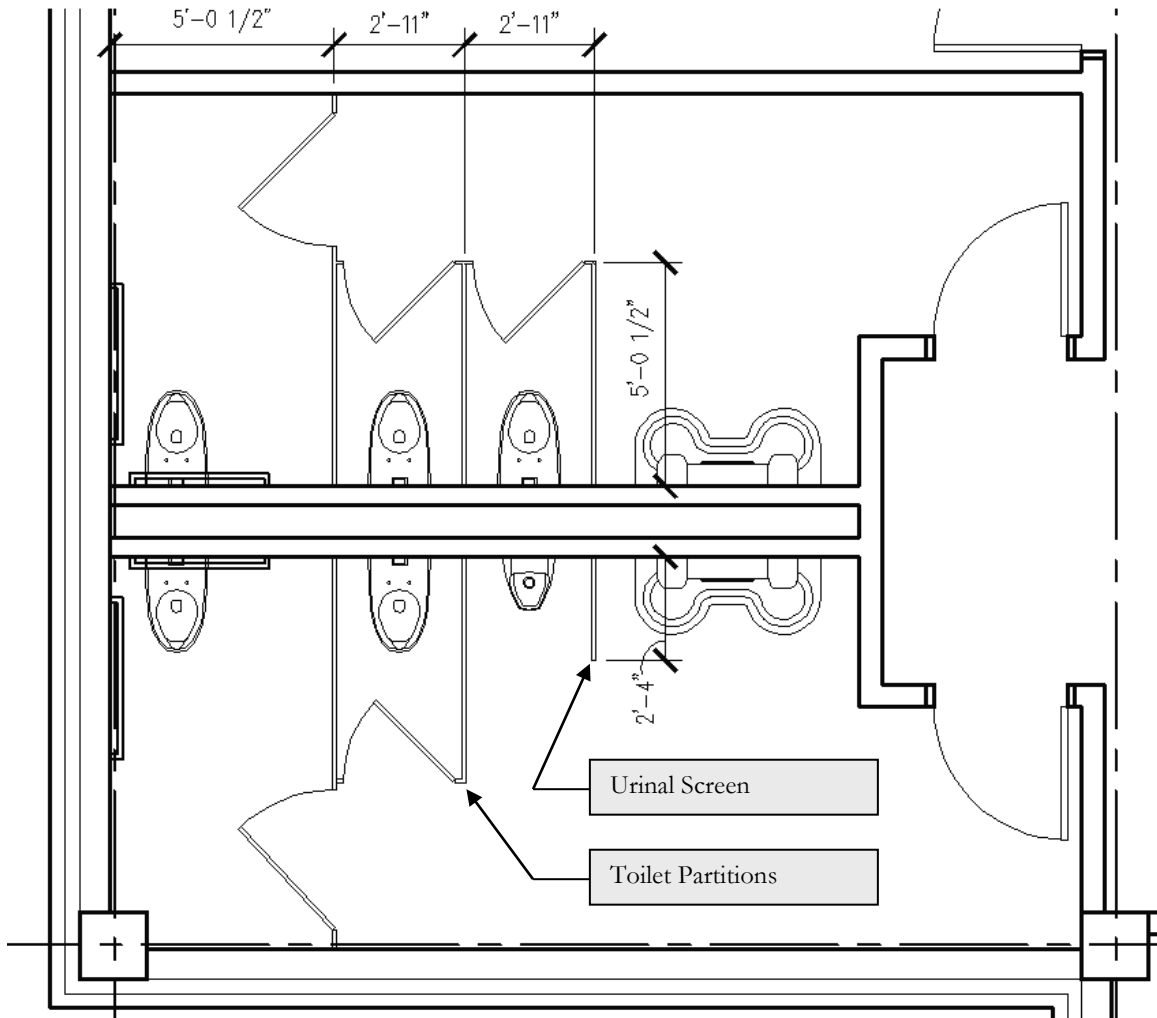

FIGURE 4-1.9 Drawing the toilet partitions and urinal screen
16. Draw the toilet partitions as shown in Figure 4-1.9, *plus*: